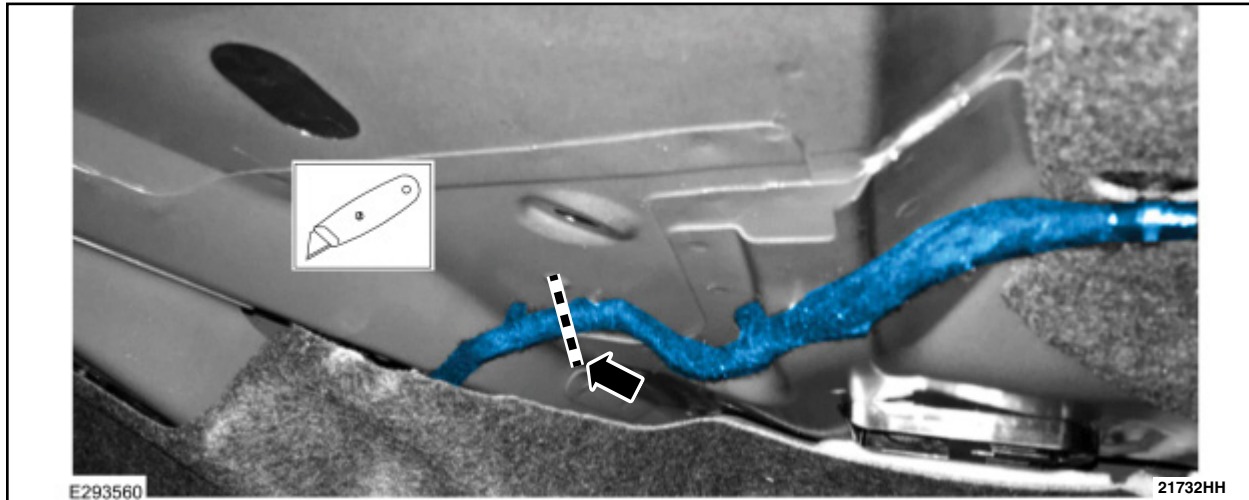

FIGURE 9
22. Cut out the damaged section of the harness. Make the cut at the location of the harness noted. See Figure 9.